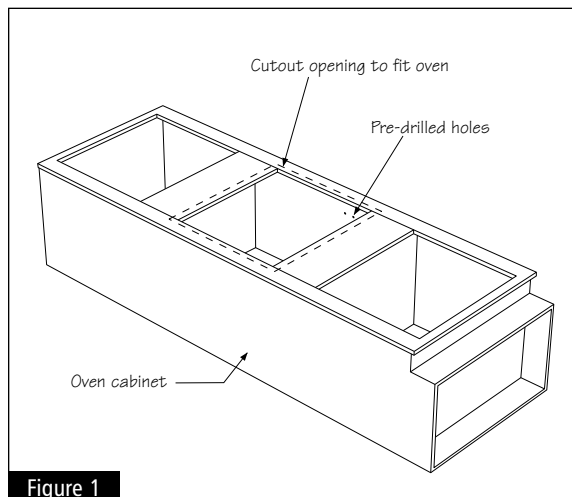

Figure 1
**1** Make cutout in oven cabinet frame per oven manufacturer's instructions. Measure up from the bottom of the cabinet to the lower edge of the cutout. Using this dimension, find the pre-drilled holes in the side panel that are closest to this dimension. Mark these holes for future reference. (See Figure 1)